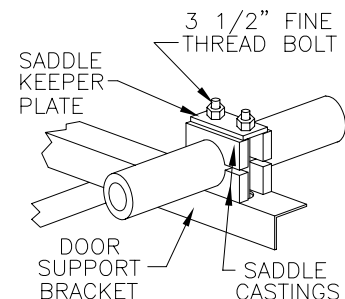

FIGURE 4
- 4A PLACE SADDLE CASTING ON DOOR SUPPORT BRACKET. LAY AXLE INTO LOWER SADDLE CASTING. INSTALL KEEPER PLATE, WASHER AND NUTS AS SHOWN IN FIGURE 4. TAKE VERY GREAT CARE TO TIGHTEN BOTH NUTS VERY TIGHTLY TO A TORQUE OF 40 FOOT POUNDS. (THIS IS A 40 POUND PULL AT THE END OF A 12" WRENCH.)
- 4B ATTACH CHAIN HOIST (IF SUPPLIED) TO DOOR SUPPORT BRACKET USING (4) - 3/8" DIAMETER HEX HEAD BOLTS. POSITION ROLLER CHAIN ON PERIMETER OF BOTH SPROCKETS. ADJUST HEIGHT OF HOIST BRACKET SO CHAIN IS TAUT (NO SLACK) AND TIGHTEN THE MOUNTING BOLTS. NOW INSTALL THE HAND CHAIN ON THE CHAIN WHEEL.